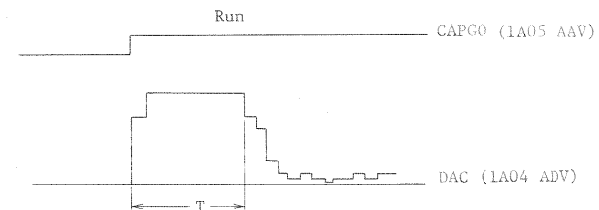

Fig. 1 DAC output
3. Trigger the leading edge of signal CAPGO (at 1A05 AAV), and then check that the time T shown in Fig. 1 satisfies the specifications in Table 1.